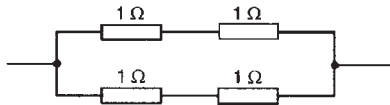

Figure 5.17
- (b) **Two in series, in parallel with another two in series** (see Fig. 5.17), since 1Ω and 1Ω in series gives 2Ω , and 2Ω in parallel with 2Ω gives